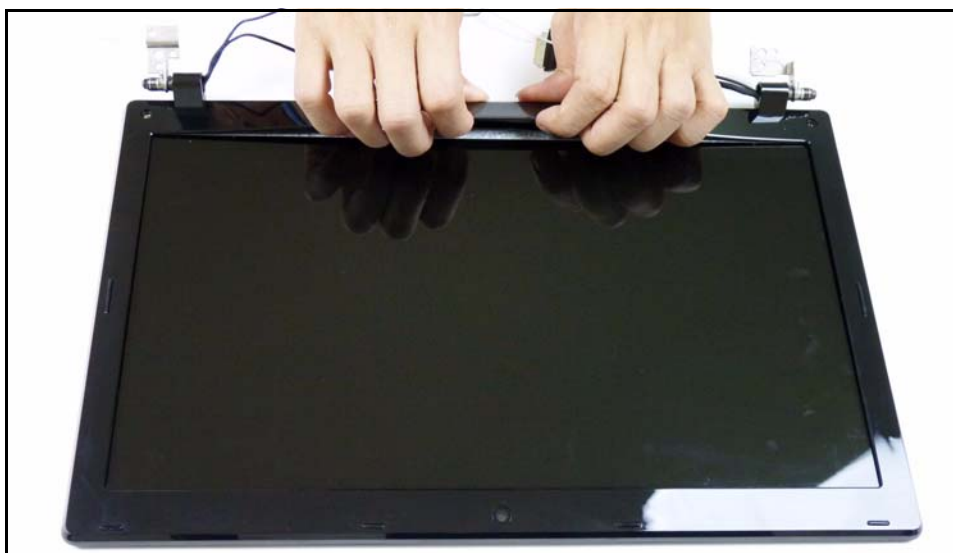

Figure 3-41. LCD Bezel
3. Lift the bottom of the bezel up releasing it from the latches. (Figure 3-41)